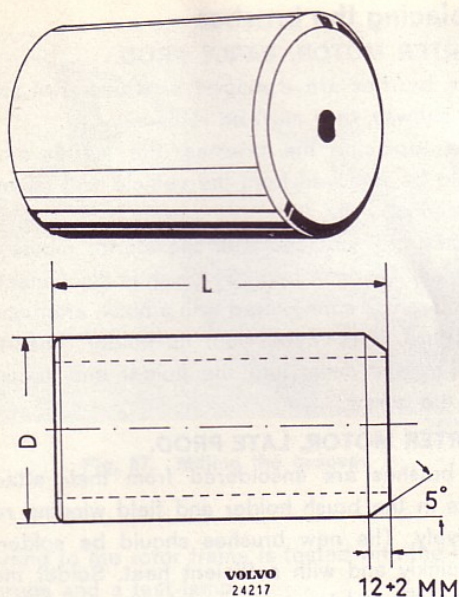

Fig. 64. Press drift (starter motor EGD)
4. Before fitting new field coils, these should be warmed slightly. Then place the pole shoes in position in the field coils and slide them into the stator. Tighten the pole screws slightly. Press in a suitable drift (for measurements, see Fig. 64). Set up the stator in the holding device and tighten the pole shoes.